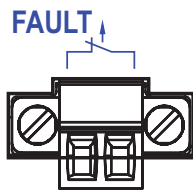

Figure 7: 2-pin terminal block
- ▶ The signal contact (“FAULT”, for pin assignment see fig. 7) is used for the remote monitoring of the device to enable remote diagnostics. You can specify the type of function monitoring in the Management.